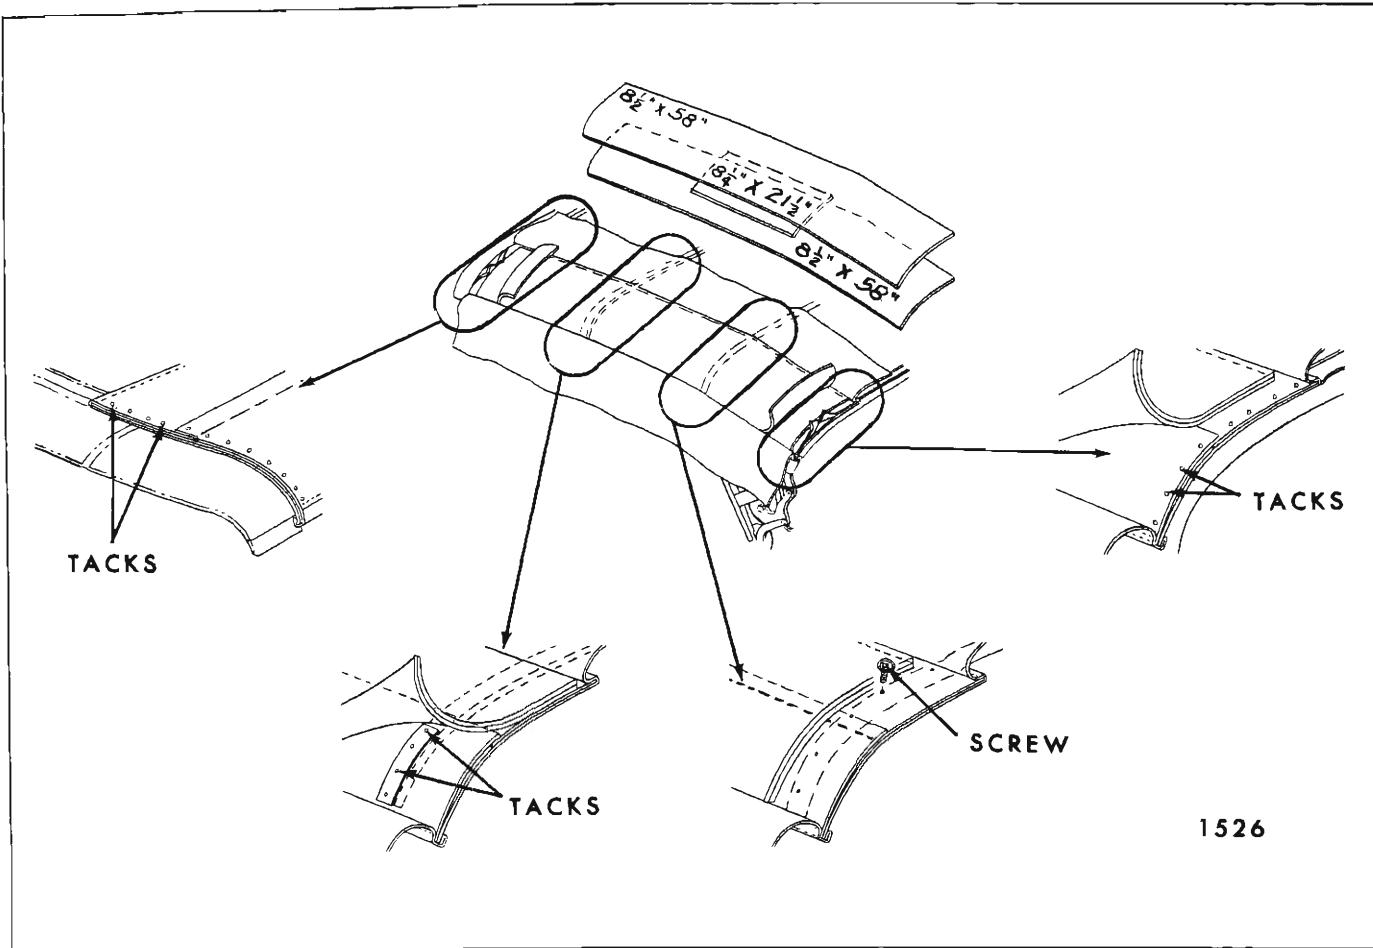

Fig. 1-I-13—Side Stay Pad Installation
NOTE: Notch in back curtain material at lower edge indicates centerline of back curtain assembly (Fig. 1I15). In addition, back curtain lower edge should extend approximately 1/2" below lower edge of trim sticks.
8. Tack curtain to rear and rear quarter trim sticks (Fig. 1I15). On right side, tack zipper tape to forward edge of rear quarter trim stick.